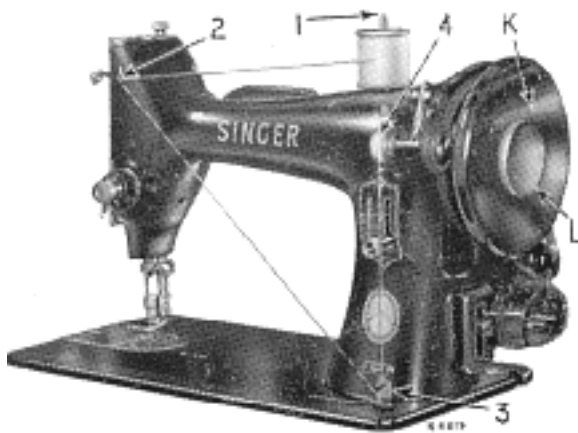
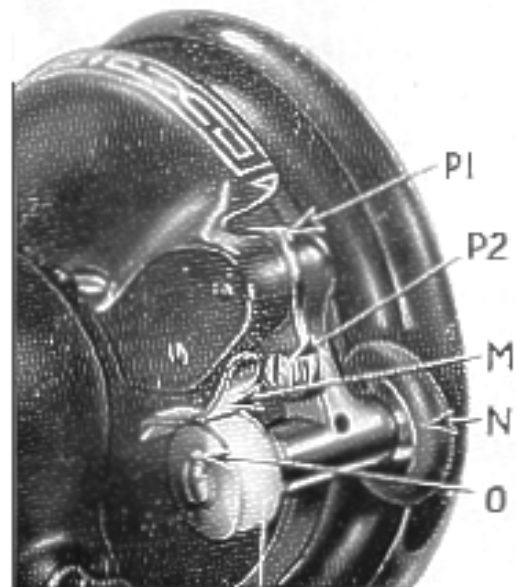

Fig. 16
Fig. 17
Loosen the hand wheel by turning motion screw **L**, **Fig. 16**, over toward you, place both feet upon the treadle and turn the hand wheel over toward you, at the same time allowing the feet to move freely and lightly with the motion of the treadle. Continue to do this until a regular and easy movement is acquired and you are able to work the treadle so that you can re-start the machine with the wheel turning toward you.
Hold the hand wheel **K**, **Fig. 16**, with left hand and with right hand loosen stop motion screw **L** to disengage stitching mechanism.
Place empty bobbin on bobbin winder spindle, see **Fig. 16**. Turn bobbin until hole in right side engages pin in spindle. Press bobbin winder downward until latch **M**, **Fig. 17**, engages. In this position latch will hold bobbin in place.
Thread through **O**, **Fig. 17**, in left side of bobbin from inside. The end of the thread must be held by hand until it is broken off by the rotation of the bobbin.
**Fig. 17** shows bobbin winder in position for winding. When sufficient thread has been wound the winder is automatically released.
Remove filled bobbin from bobbin winder spindle and re-tighten stop motion screw **L**, **Fig. 16**.
If thread does not wind evenly on bobbin, loosen screw which holds thread guide **3**, **Fig. 16**. Turn guide to left if bobbin winds high on right. Turn guide to left if bobbin winds high on left. When guide is properly centered, thread will wind evenly across bobbin. Tighten guide clamping screw.
If the pressure of bobbin winder pulley **N**, **Fig. 17** against hub of hand wheel is insufficient for winding the bobbin, press down winder until latch **M** drops down and holds it, then loosen screw **P2**. With the forefinger push back upper end of slotted plate **P1** as far as it will go and at the same time, with the thumb, press winder against ledge of wheel. Then tighten screw **P2** securely. Afterwards raise latch to release winder from contact with hand wheel.